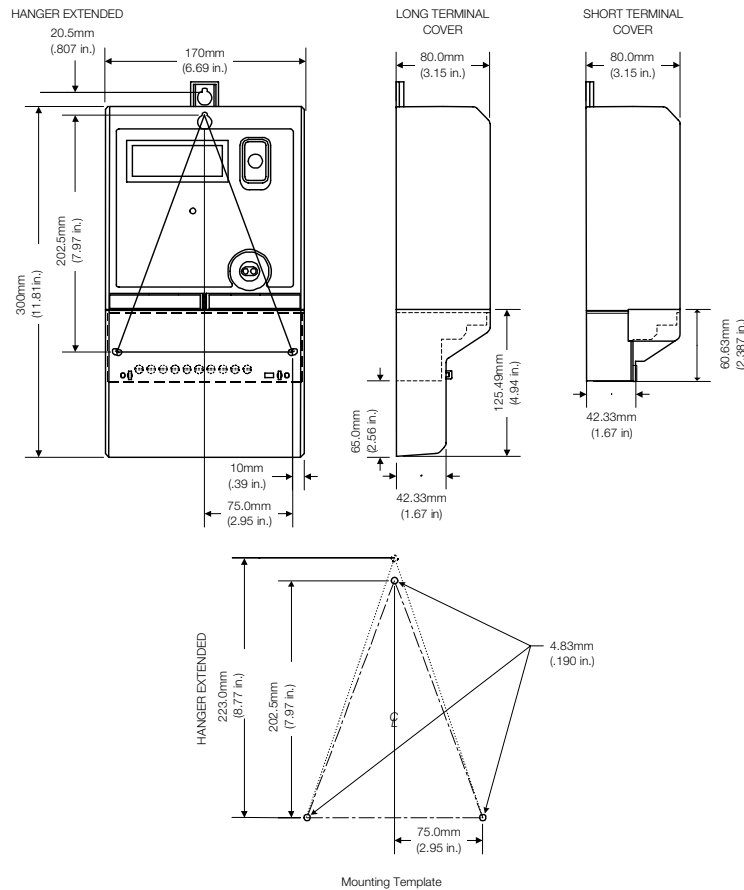

Figure 9. Mounting Dimensions
- 2 Mount the bottom connected meter. The housing and fixing holes (except top) conform to the DIN 43859 standard. The top hanger of the meter can be positioned above the housing, and thereby be visible and more easily installed, or it can be hidden under the housing. You can easily change the position of the hanger by squeezing it and then moving it to the desired position. (See Figure 9 for mounting dimensions.)